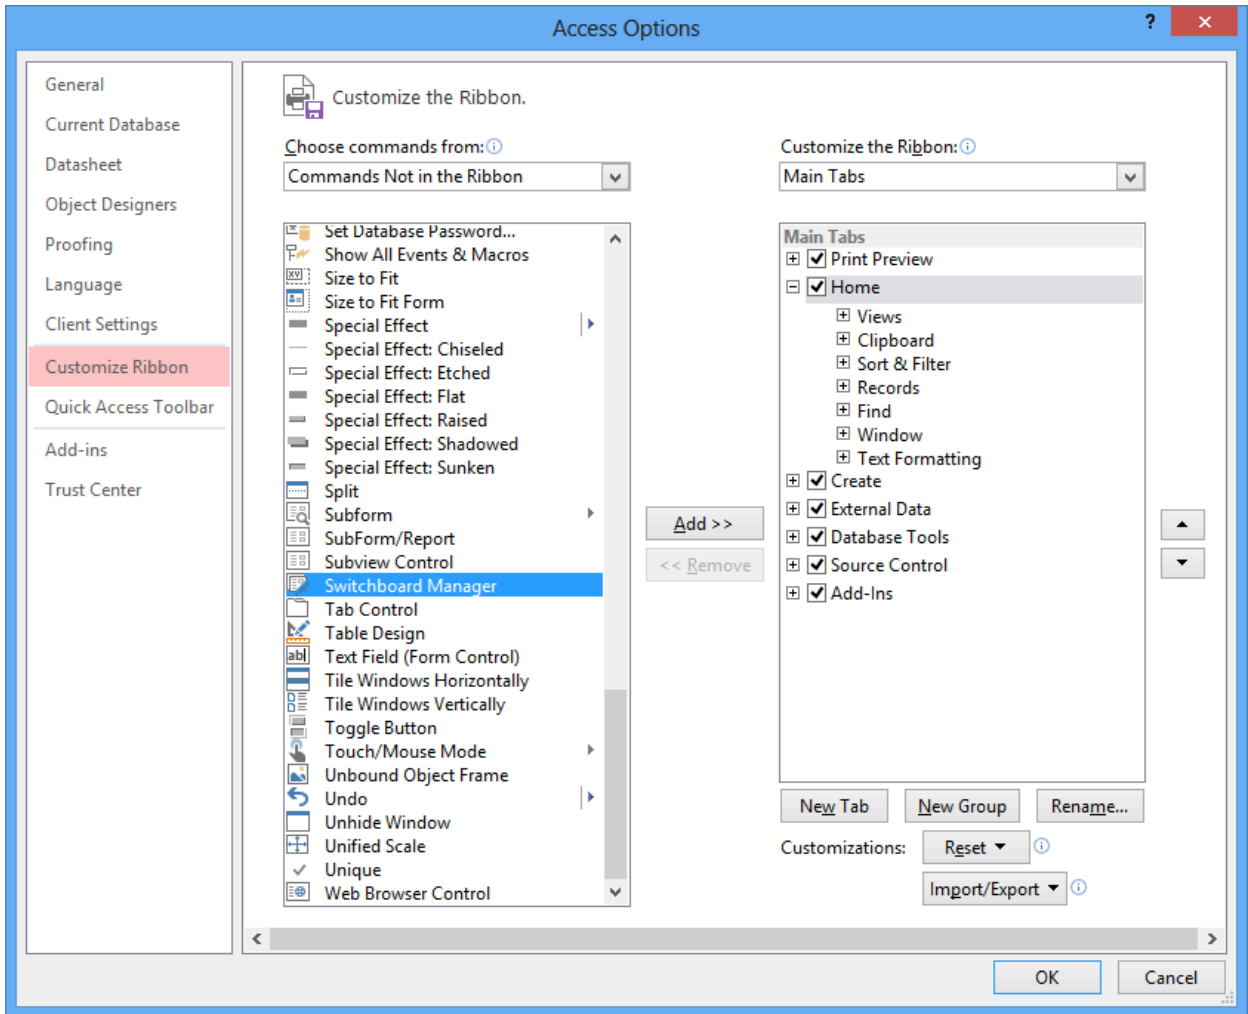

Figure 1: Access Options Window Showing the Switchboard Manager
1. Open the Access Options Window: In Access 2010, the switchboard manager was removed from the Ribbon because navigation style forms are the preferred navigation aids for web deployed databases. Thus, you need to add the Switchboard Manager to the Ribbon before you can use it. Click **File** → **Options** to display the Access Options window (Figure 1). Select the **Customize Ribbon** button. In the “Choose commands from:” drop-down list, choose “Commands Not in the Ribbon”. Scroll down the list to find the Switchboard Manager item.